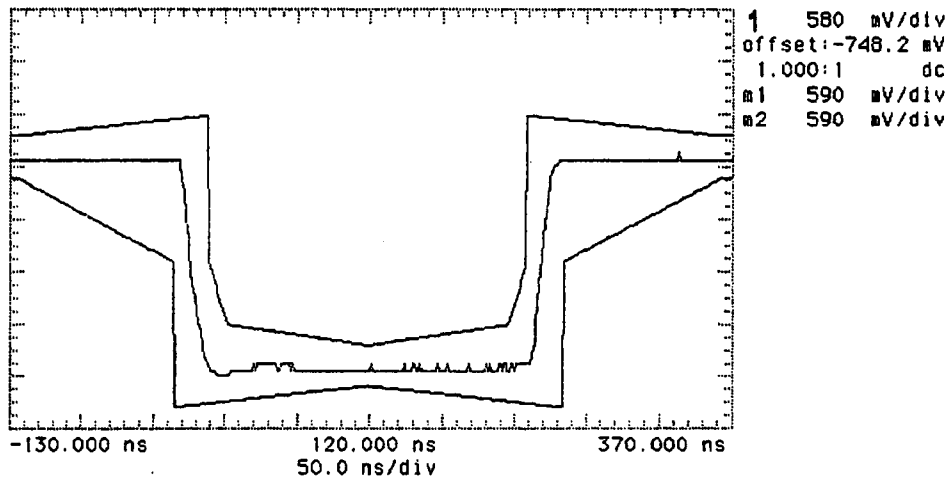

Figure 3-28. 2 Mb/s Isolated Negative Pulse
20. Adjust the oscilloscope timebase and vertical sensitivity controls to verify that the pulse meets the mask as shown in Figure 3-28. Use the displayed settings as a guide.